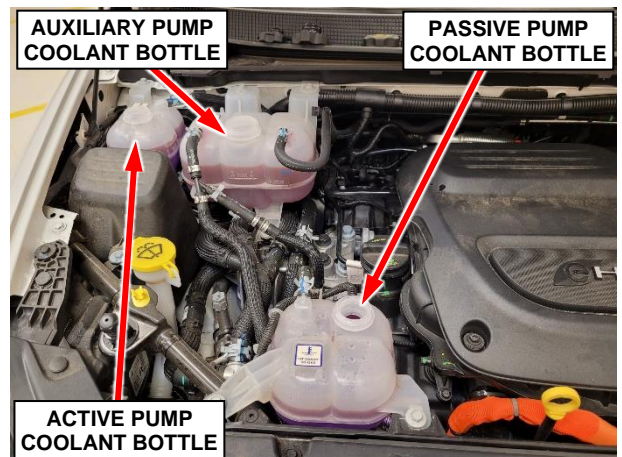

Figure 75 – Evacuate and Refill Power Electronics Pump Coolant Bottles
- 154. Using Mopar Essential Tools and Service Equipment Tool, UView Airlift™ Cooling System Refill 399-550000 or equivalent, repeat all the prior cooling system refill procedure steps for the **Passive Pump** and the **Auxiliary Pump** coolant bottles also (Figure 75).